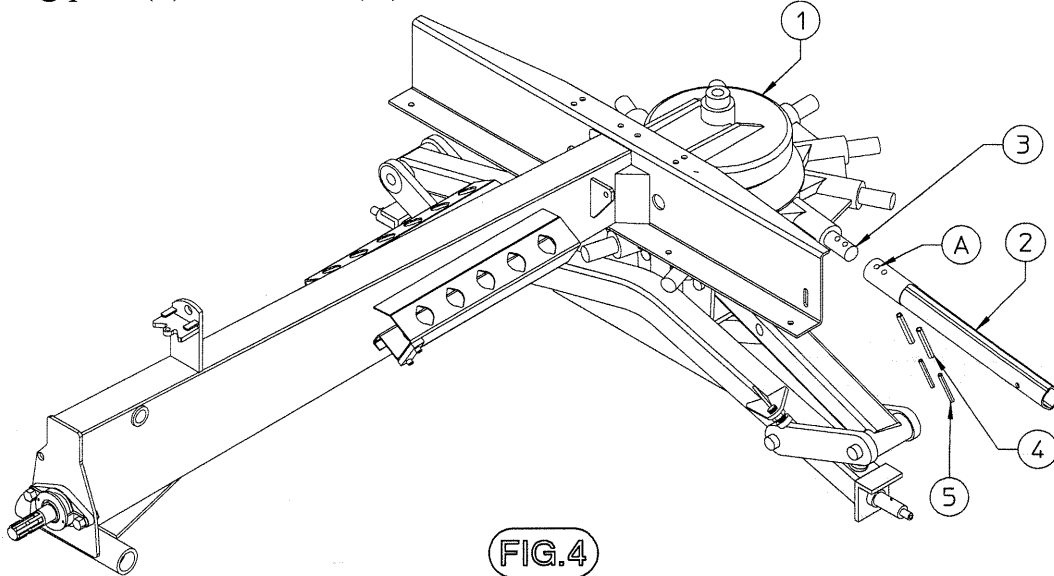

FIG.4
40. Prolonged use of the machine can cause the drive boxes (Fig.4) to become hot. To avoid any risk of getting burnt, avoid touching these areas both during use and some time afterwards.